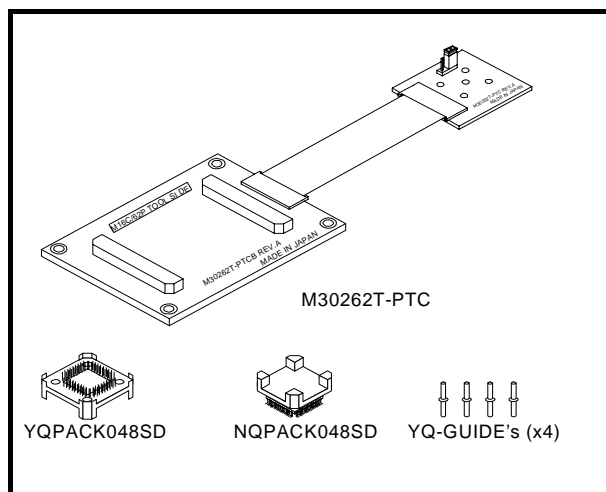

Figure 1 Package components of the M30262T-PTC
2. Package Components (See Figure 1)